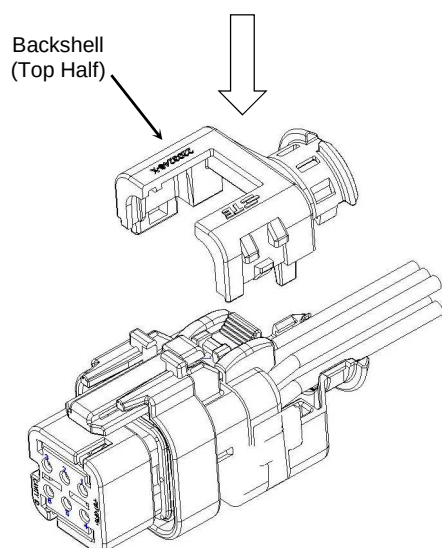

Figure 4
6. For assembly to a plug connector, be sure to use the backshell with an open window area as the top half. Again, turn the top half of the backshell over and insert the connector into the backshell so that the wire seal cover is behind the second rib at the opening of the backshell. Firmly press the two halves together. An audible and tactile click will indicate when they are mated. Visually check all the latches for complete engagement. See Figure 4.